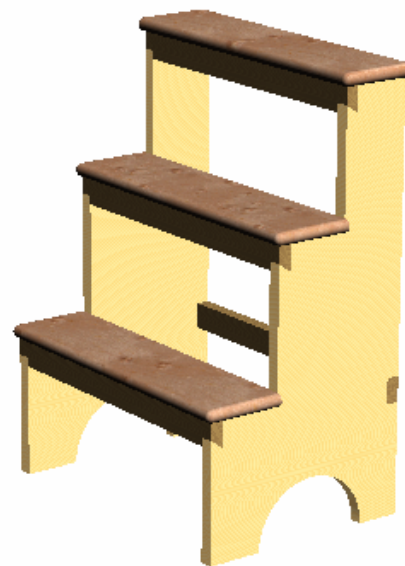

Figure 30. Step stool fill completed.
62. The design should now look like figure 30.